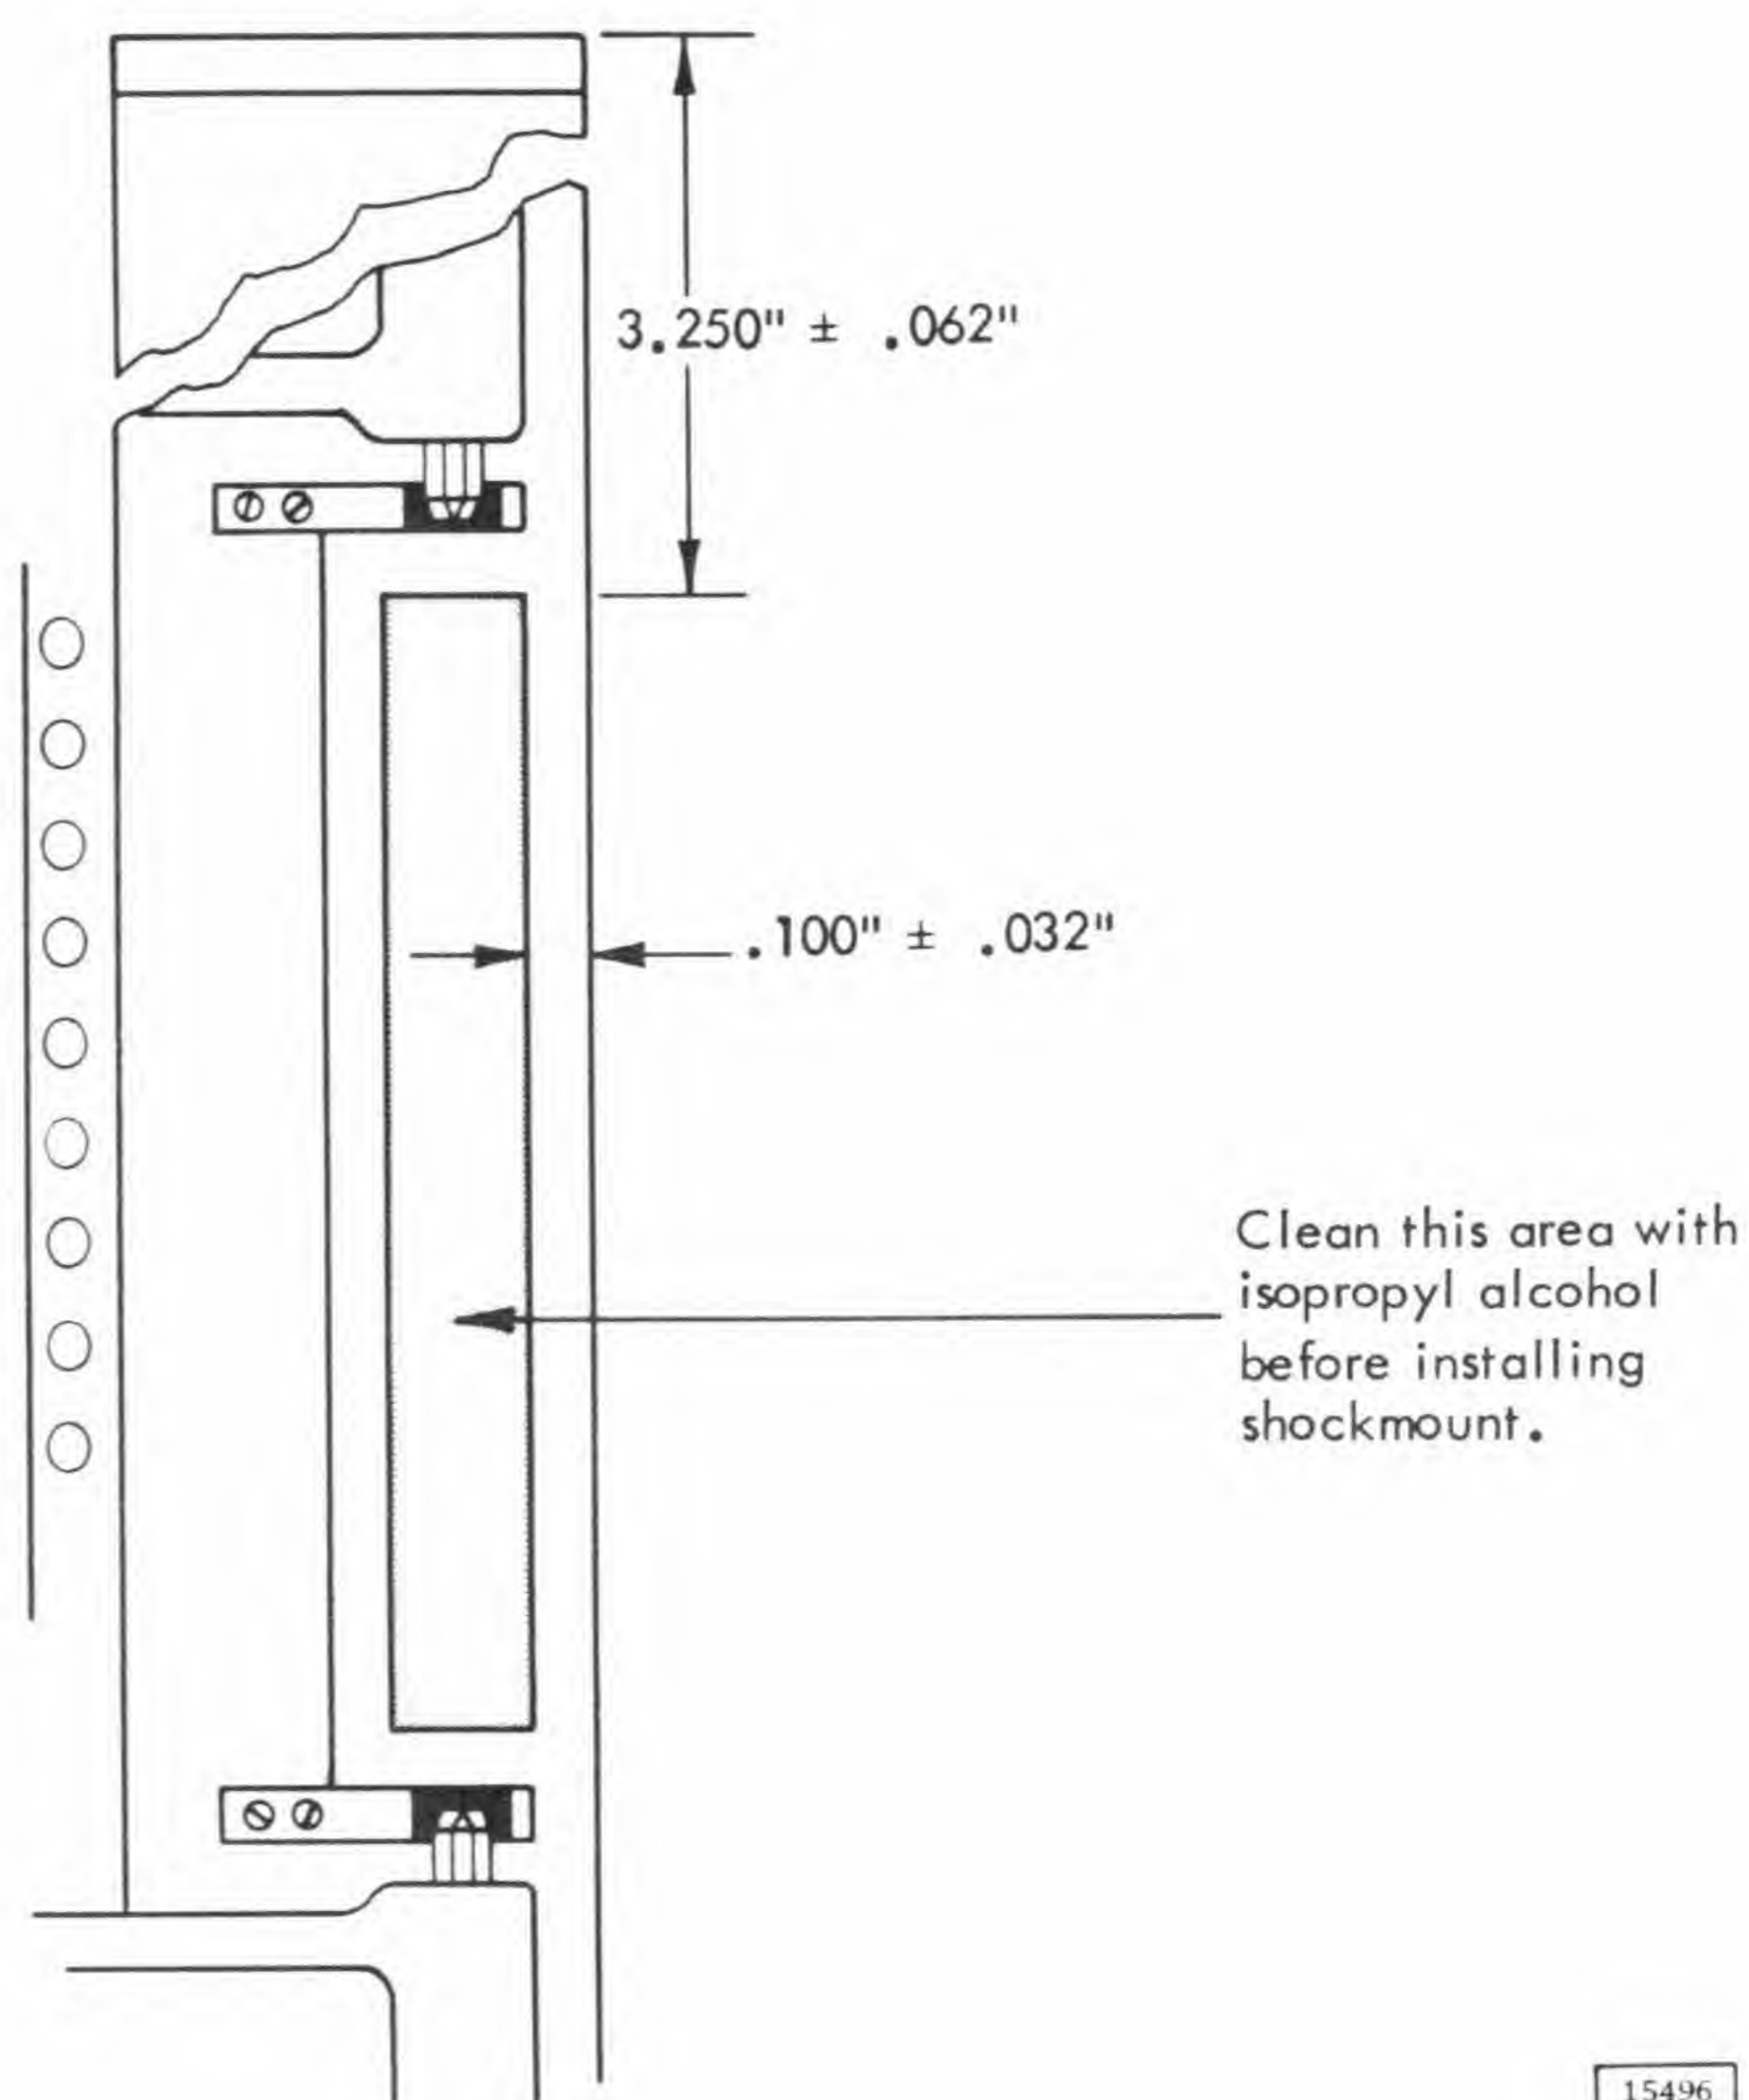

Figure 2-37. Shock Mount Installation
- c. Swing out the receiver and clean the surface of the receiver indicated in Figure 2-37 with isopropyl alcohol.
- d. Remove the protective covering from the appropriate shock mount assembly and press it firmly in position (Figure 2-37).